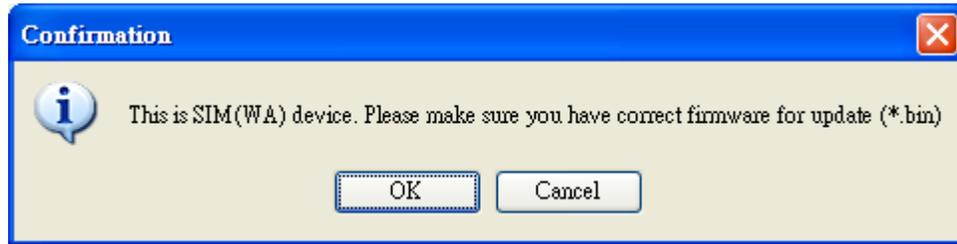

Figure E-1 Firmware Update Screen
1. Select an SIM(WA) device and select <Update Firmware> in the menu for SIM(WA) Firmware Re-flashing. A screen will display as shown in Figure E-1.